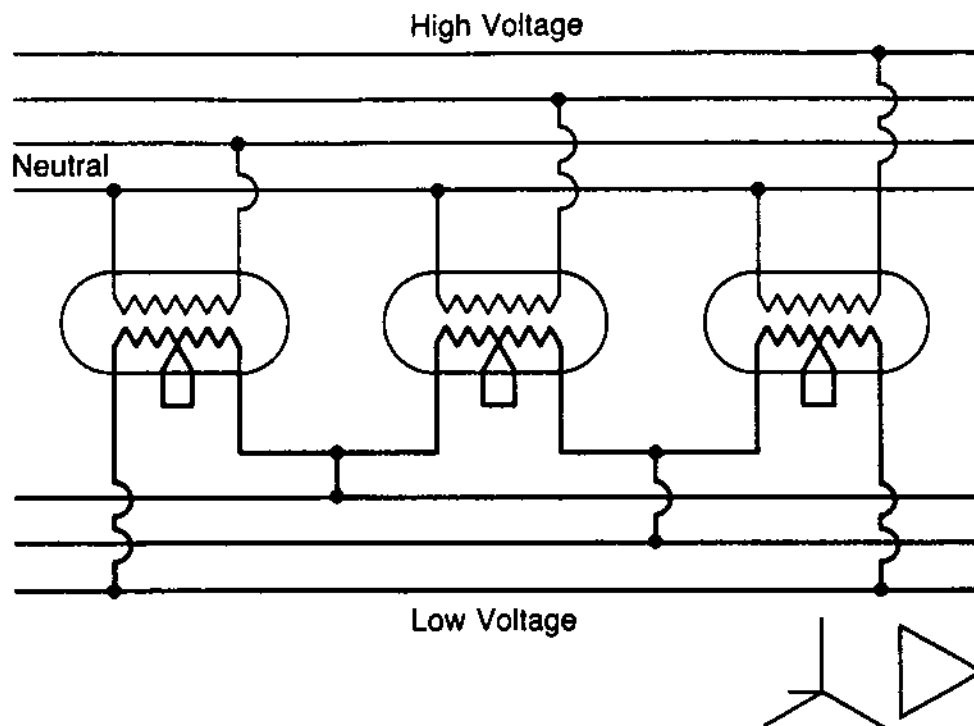

Fig. 35 – Three-Phase, Star, Four-Wire HV Delta, Three-Wire, LV Connection
d. *Three-phase, wye, four-wire, HV; delta, three-wire LV* connections, see Figure 35. This connection permits three-phase power to be transmitted at wye voltage. At the same time single-phase power may be taken from the mains by connecting the transformer between the neutral and any of the three-phase wires.